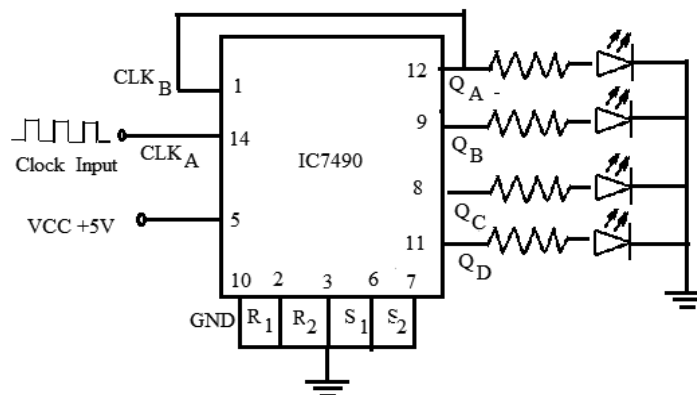

Figure 14.2 Decade Counter using 7490
- 2) Make the connection for given circuit diagram.(figure 14.2)